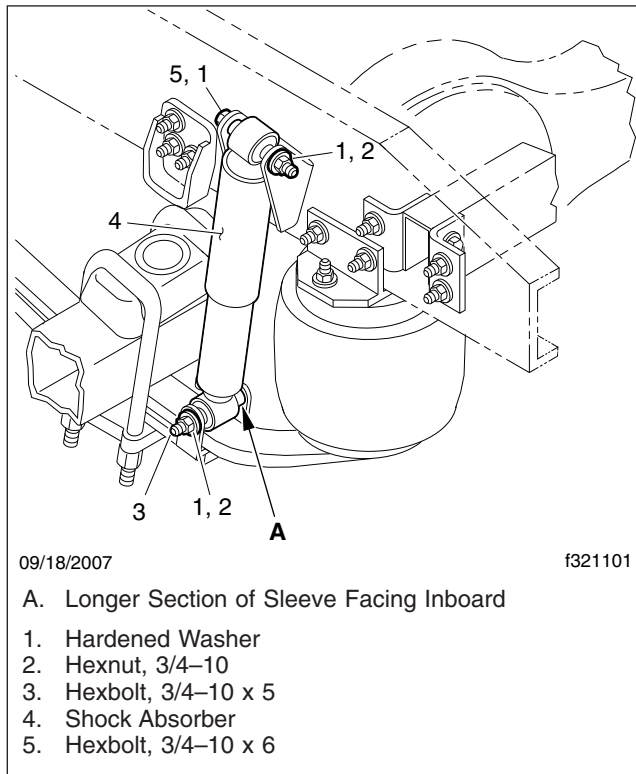

Fig. 1, Shock Absorber Installation
2. Remove the hexnut, hexbolt, and hardened washers from the shock-absorber lower mounting bracket. See Fig. 1.
4. Install the replacement shock absorber. At the lower mounting, make sure the longer section of the sleeve is facing inboard. See Fig. 1.